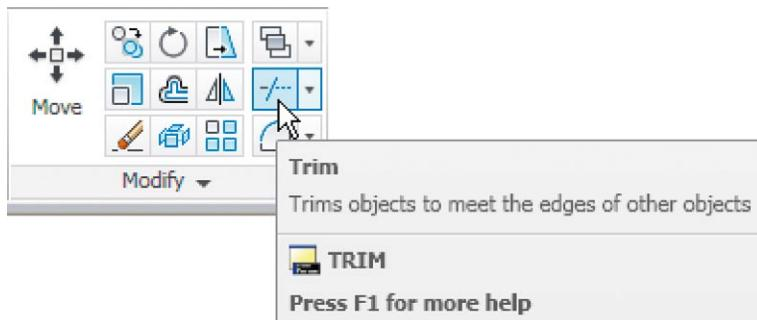

Fig. 5.30 The Trim tool icon from the Home/Modify panel
2. Call **Trim** – either *left-click* on its tool icon in the **Home/Modify** panel (Fig. 5.30), *pick Trim* from the **Modify** drop-down menu or *enter tr* or **trim** at the command line, which then shows: